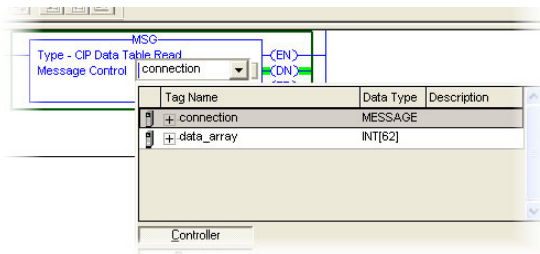

Figure 101: MSG Instruction Tag Assignment
- a) Edit the “Message Control” field on the MSG instruction to use the previously-created “connection” tag. Refer to Figure 101.